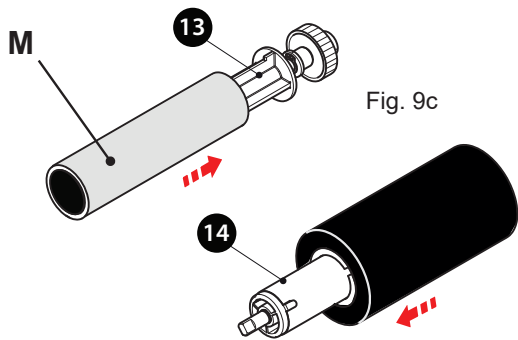

Fig. 9c
- ▶ Remove the ribbon take-up spool (13) by releasing it and lifting it up. Then insert the cardboard core (M) included in the supply (Fig. 9c).
- ▶ Pull out the ribbon take-up spool (14) by releasing it and raising it, thread the print ribbon through, aligning the slot with the reference pin on the spindle (Fig. 9c).